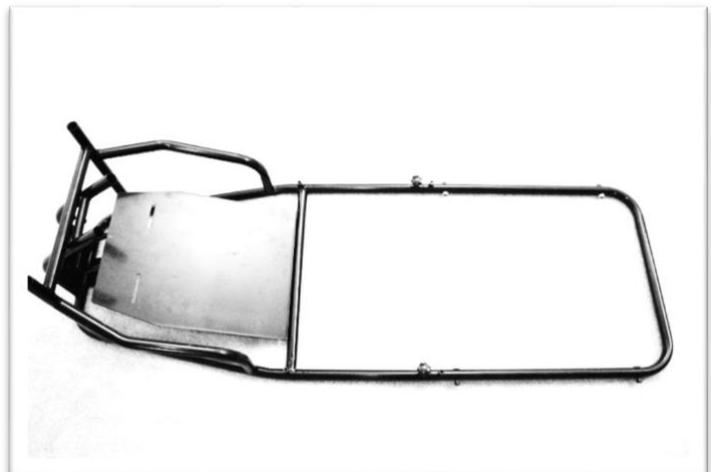

Figure 2a: Attaching Pedal Tray to Monitor Base
Flip the monitor base and seat base over and attach the pedal tray using two (2) M6*30mm Button Head Machine Screws (No. 2) and Two (2) M6 Self-Locking Nuts (No. 4). See Figures 2a and 2b below: